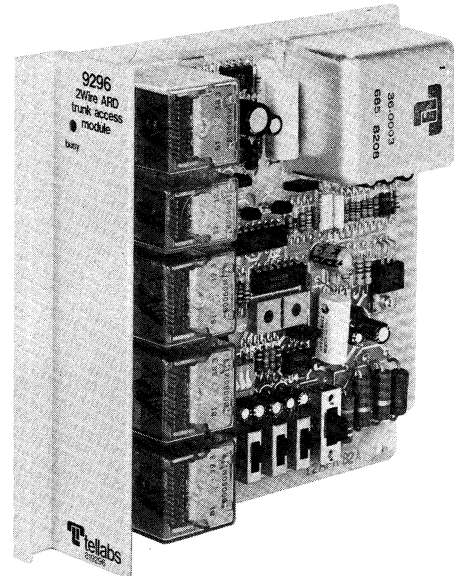

figure 1. 9296 2Wire ARD Trunk Access Module
1.01 The Tellabs 9296 2Wire ARD Trunk Access Module (figure 1) is designed specifically for use in the Tellabs 292R Conference/Alerting System. *The 292R System is a 2wire multistation ringdown conference system designed for emergency reporting and business conference applications. The System provides simultaneous conference access to up to 60 local stations from either a dedicated master telephone or any local telephone via a listed directory number.* In the 292R System, the 9296 module provides the interface between the 292R System and the switching equipment. The 9296 can accommodate the following: any SxS, No. 1 EAX, No. 2 EAX, X-Bar, or DMS-100 switching system equipped for sleeve-lead or C-lead control, a DMS-10 system using Type II E&M signaling interface, or any loop-start or ground-start electronic system. The 9296 module (when mounted in position 1 or 2 of the 292R's common equipment shelf) can initiate a conference automatically when accessed by a central-office line circuit. The 9296 (when mounted in position 3, 4, or 5 of the 292R's common equipment shelf) can also function as a remote-answer trunk circuit.